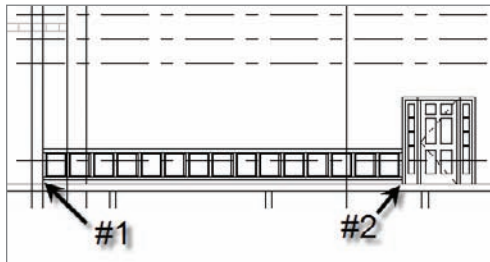

FIGURE 10.79 Adding the line-based, raised panel family
17. Pick the base point, labeled #1 in Figure 10.79.
18. Pick the second point, labeled #2 in Figure 10.79.
NOTE If you just can't seem to pick the points specified in Figure 10.79, go ahead and pick two points close to the area indicated in the figure. After you place the line-based family, you can select it and grip-edit the ends to extend to the wall's edges as shown in the figure.